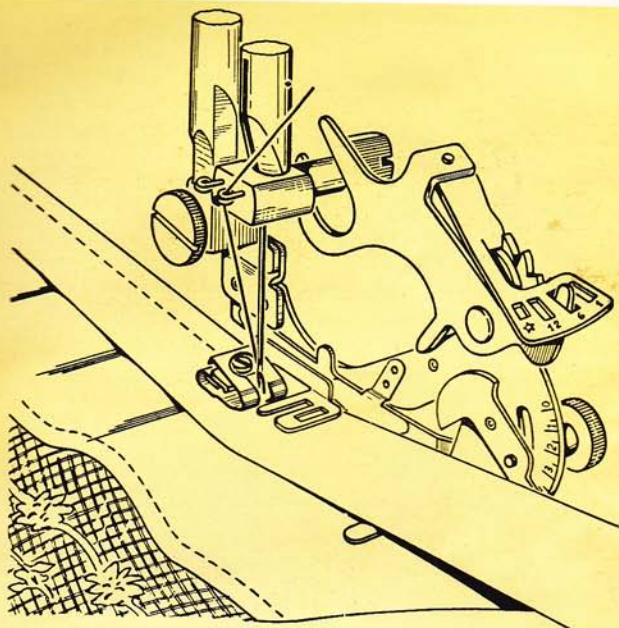

Fig. 57
- 4) Lower presser bar and sew. Fig. 57 shows the procedure described above.